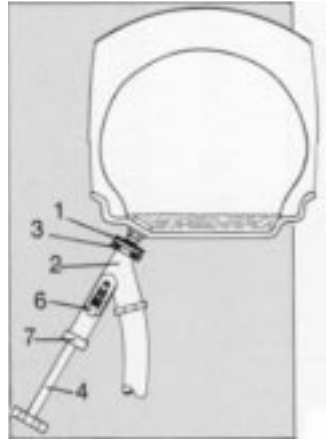

FIGURE 1
The following connections should be made when the pump is not running and with control handle in the vertical or check position: *To connect liquid fill core ejector to 2 piece style rear tractor valves TR-218A, TR-618A, (figure 1),* unscrew union (1) from core ejector body (2) screw on valve stem finger tight. Screw core ejector body on union (1) making sure rubber gasket (3) is in place, with handle (4) of core ejector pulled out. Push handle (4) of core ejector in until it makes contact with the core housing of the valve, then hold the core ejector in left hand, strike the handle (4) with the right hand to force the core housing in ejector chuck (6). Turn handle (4) to the left to unscrew the core housing, pushing inward lightly so you can feel the threads disengage when completely unscrewed. Then pull handle (4) out as far as it will go to retract core housing into ejector body. The handle will pull out easier if rotated while pulling, as packing nut (7) should be tight enough to prevent air or liquid leaks.